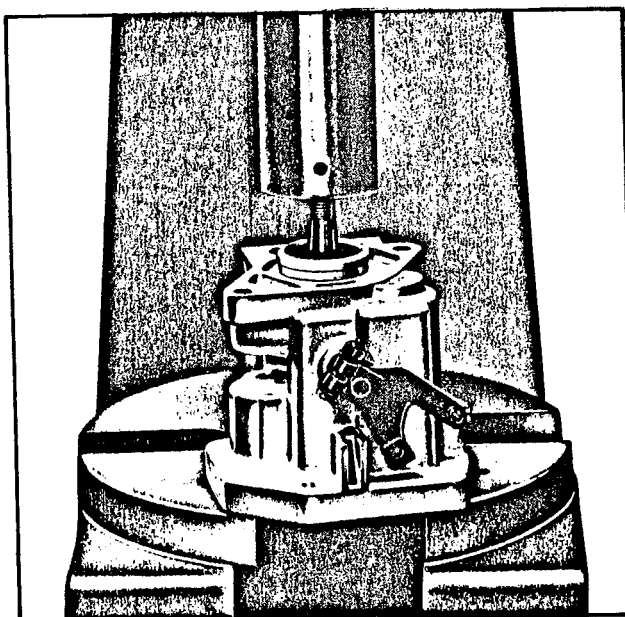

Fig. 29 - Driving out the Camshaft
- unscrew the nut (43) and take off the lock washer (32);
- using universal puller 8012868, remove the driven gear(61) and withdraw the key (30);
- remove the pump housing from support plate 8017350, place it under a press (see figure 29) and drive out the camshaft(3) complete with gear (62) and bearing (38);